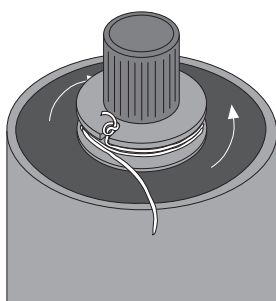

Figure 2:
- ① Begin the demonstration with the fan off.
- ② Place the knotted end of the string in the notch in the pulley at the top of the cylinder as shown in Figure 2. When the string is pulled, the string is supposed to detach from the pulley, allowing the pulley to continue spinning freely, without the string attached.
- ③ Wind the string onto the pulley by holding the string with one hand and spinning the cylinder with the other hand. Notice that the label on top of the cylinder shows which way the cylinder will rotate when you pull on the string. Note which way you wound the string so you can wind it the opposite direction when you spin it for the second time.